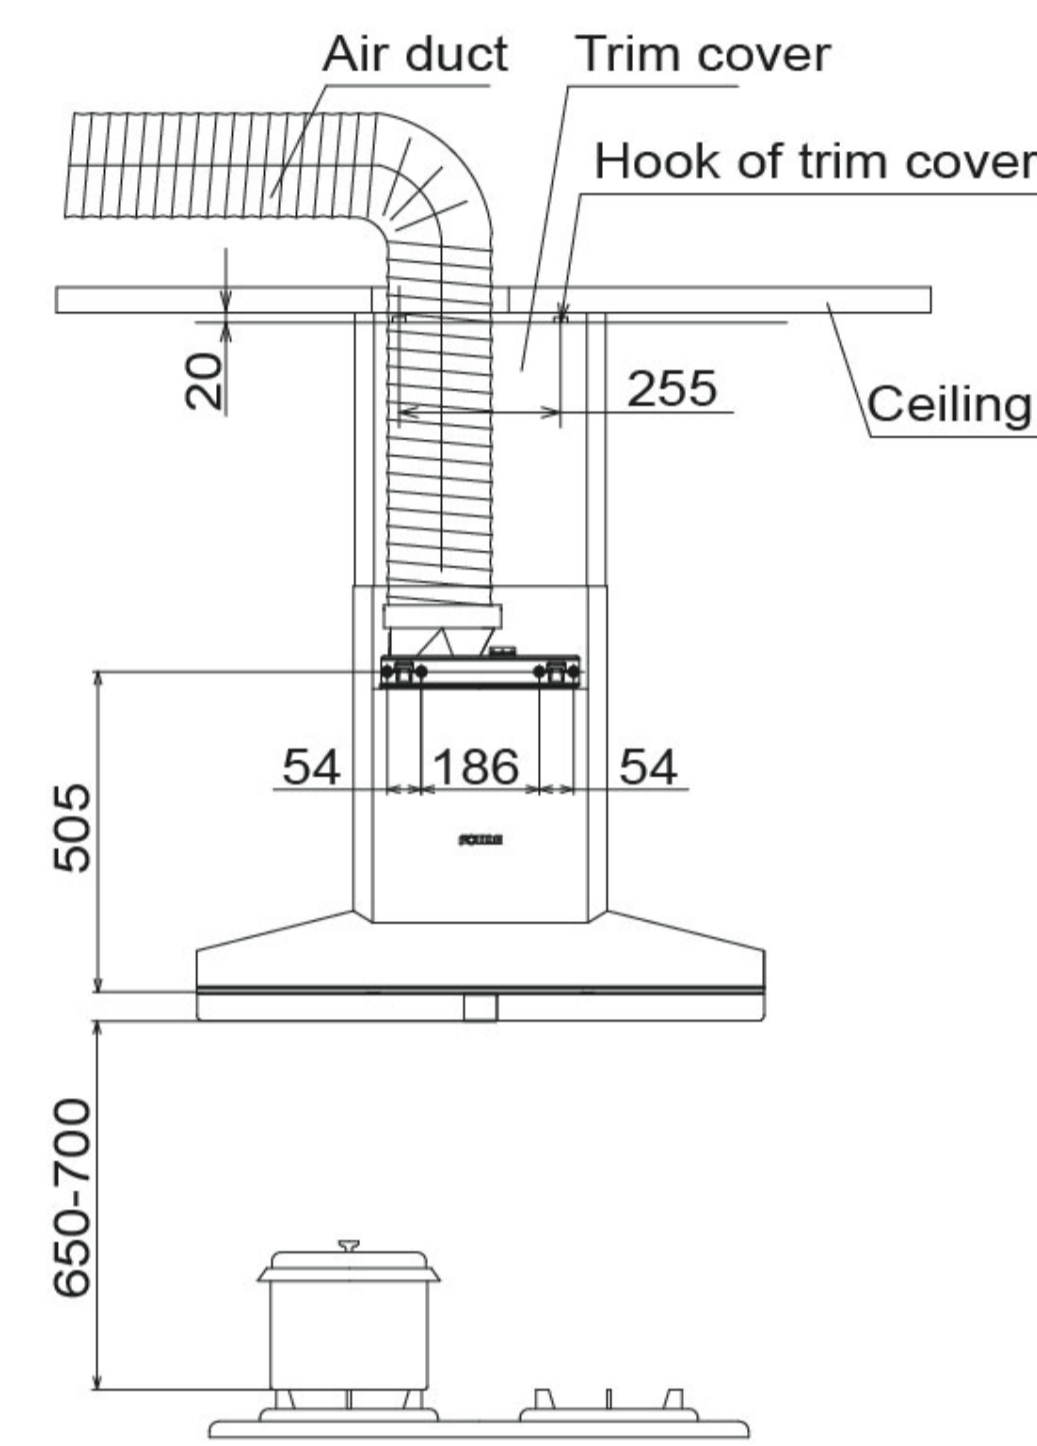

Figure2 Installation Schematic
2. Accurately determine the drilling position of the percussion bit on the solid wall (as shown in Figure 2), drill a hole, firmly embed the expansion tube, fix the hook and the hook of trim cover, and screw in the wood screws; the hook of trim cover can be fixed on the ceiling with ST2.9x19 self-tapping screw.
7. Install the air duct according to Figure 2, and inspect the tube wall (no swelling and sinking with smooth bend); the gap between the air duct and the wall shall be tight to prevent back smoke. The check valve blade shall be free from jam during lifting and falling (it is unnecessary to install the check valve plate when the extractor hood is matching with Fotile fireproof check valve).